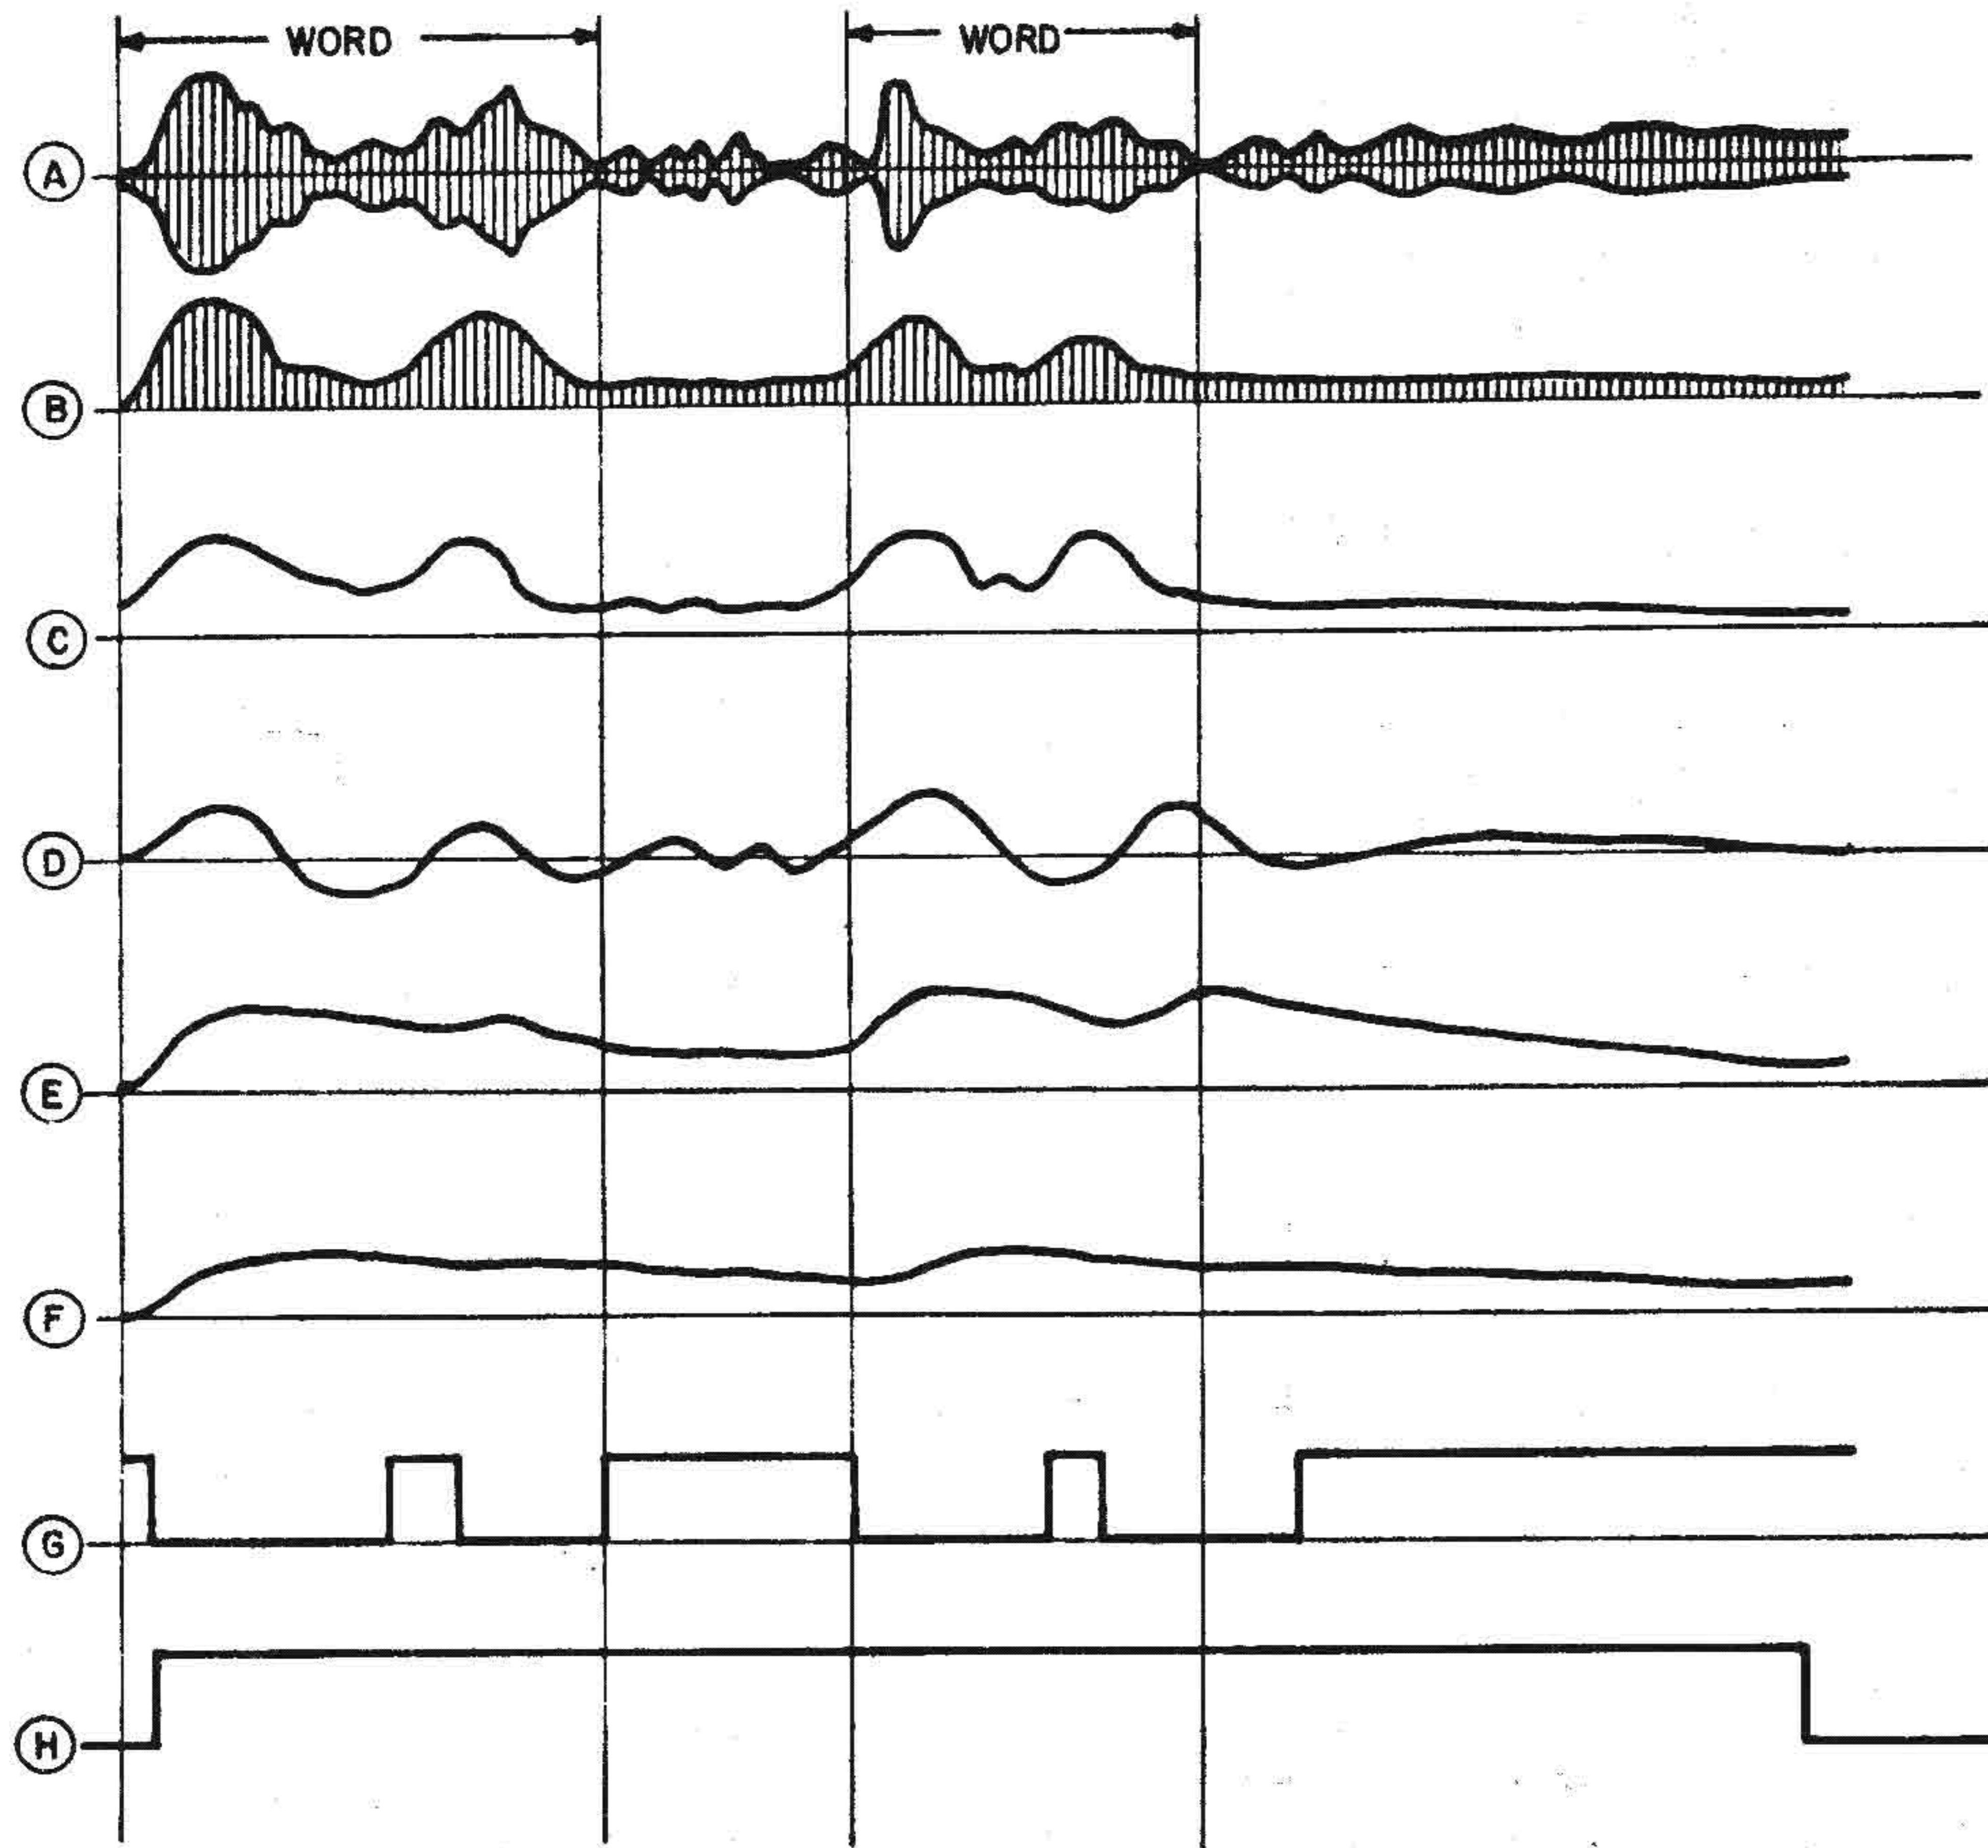

Fig. 2-12. Typical waveforms in the squelch circuit
(2) Sidetone path in the transmit mode. The audio modulation signal provided by the PRE 1A2A4 module is also connected to pin T, and passes through an attenuator to the sidetone gate. The sidetone gate is an analog switch, controlled by the DC voltage appearing on the TX LEVEL line (see para. 2-14). This voltage is proportional to the RF output power of the RT-936/PRC-174. A peak sample-and-hold circuit "catches" the voltage peaks and stores them for a few seconds: this arrangement prevents changes in the gate control voltage caused by the instantaneous variations in the output power caused by the modulation. When the RF output power of the RT-936/PRC-174 is sufficiently high, the gate control voltage provided by the peak sample-and-hold circuit exceeds the gate threshold, and the gate opens, letting the sidetone pass. When the RF output power decreases below allowable limits, the gate control voltage is too low to keep the gate open, and it closes, interrupting the sidetone signal. Therefore, the existence of a sidetone indicates that the transmit path is operational. The sidetone is however, unconditionally available at the input of the audio compression amplifier.
(3) Operational signaling path. Module CONT 1A7 (para. 2-26) provides various auditory signals which inform the operator of the RT-936/PRC-174 operational status. These signals arrive on the SIGNALING line (pin U) and pass directly to the input of the earphone amplifier.
(4) SAVE mode operation (fig. 2-12). In the SAVE mode, the squelch gate is controlled by the SAVE mode squelch circuits. These circuits are turned on and powered by the SAVE line arriving from the front panel. The squelch circuits turn the squelch gate off, unless a speech signal is detected in the received signal. However, a special-purpose control line, SEC, allows to open the squelch gate
The squelch comparator turns the squelch gate on whenever the processed signal exceeds the threshold. However, to prevent gate chattering, a delay circuit delays the turn off of the gate for a short time, thereby bridging across short interruptions. This prevents interruption of the received signal between words. Fig. 2-12 shows typical waveforms in the squelch circuits.
(b) Squelch circuit operation (fig. 2-12). The filtered audio signal appearing at the output of U6B is applied through C21 and the voltage divider comprised of R76 and R45 to the rectifier diode CR6. At the anode of CR6, a negative half-wave rectified replica of the received signal appears, and is simultaneously applied to the inputs of the signal processing path and to the threshold-generation path.
1. Signal processing path. The input voltage passes through a voltage divider, composed of R46 and R47, and then filtered by a 500-Hz bandpass filter, built around U2B. The output signal of U2B (B in fig. 2-12) is applied to an envelope detector, built around CR7. A small forward bias is applied to this diode; this bias is developed by amplifying the small positive voltage applied via R79 across R47.
The rectified voltage (C in fig. 2-12) is filtered by a 5-Hz bandpass filter, comprised of U2C and U1A. The output voltage of U1A (D in fig. 2-12), which is the envelope of the received signal, is again rectified by CR8 and filtered by R71 and C31 (E in fig. 2-12). The voltage across C31 is applied to the inverting input (pin 7) of the squelch comparator, U1B.
The rectified voltage appearing across CR6 is amplified by U2D and then coupled through capacitor C36 to a rectifier, built around CR9. A small forward bias is applied to CR9 from the voltage divider comprised of R88 and R89. The rectified voltage is filtered by R87 and C35, and the resulting DC voltage (F in fig. 2-12) is applied to the non-inverting input (pin 6) of the squelch comparator, U1B.
When the received signal does not contain speech, the voltage at the non-inverting input of U1B exceeds that at its inverting input. Consequently, the output of U1B (G in fig. 2-12) ri-
ses to +6V, and capacitor C17 starts to charge slowly through R73. Eventually, the voltage across C17 exceeds the voltage applied to the inverting input of the squelching delay U2A (pin 6) via the voltage divider comprised of R42 and R43, and the output of U2A rises to +6V. Bias current then flows through R75 to the base of Q5, and it saturates, causing the control voltage (H in fig. 2-12) of the squelch gate U5C to fall to zero. The squelch gate closes, and the received signal cannot pass to the audio amplifiers.